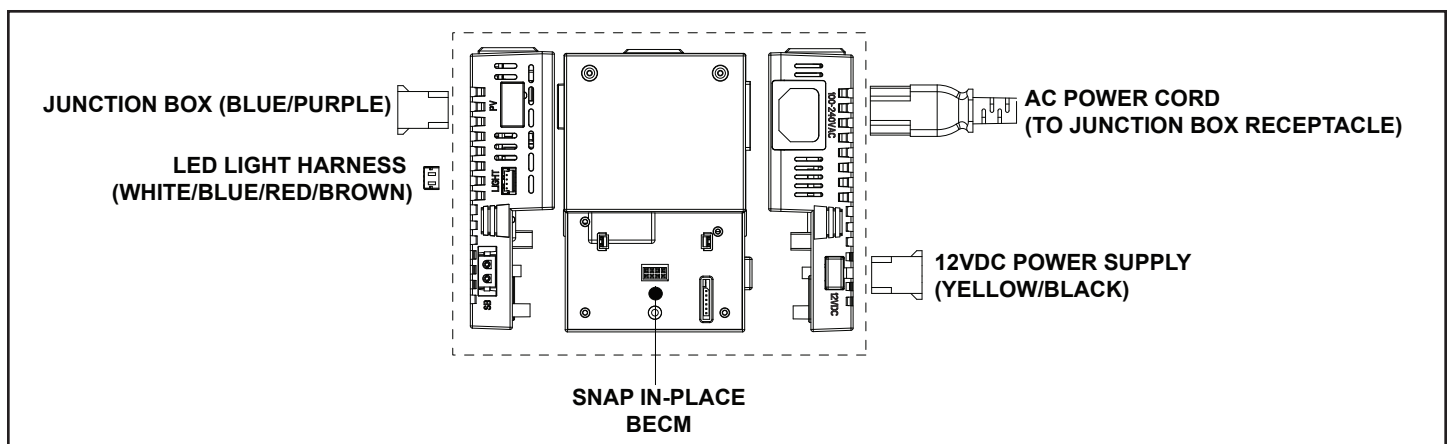

Figure 3.6 ACM Wiring
1. Disconnect the LED power supply's Black/Yellow wire connector from the Auxiliary Control Module (ACM) and White/Black Wire connectors from the AC power cord. See Figure 3.6.
1. The Auxiliary Control Module (ACM) may be replaced by removing the attached BECM and disconnecting the cables attached to it: the LED Light Harness; the LED Power Supply; the AC power cord. See Figure 3.6.